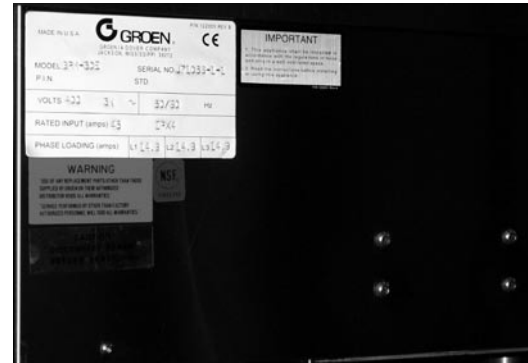

Fig. 2
- Remove the four screws at center of cover (See Fig. 2).